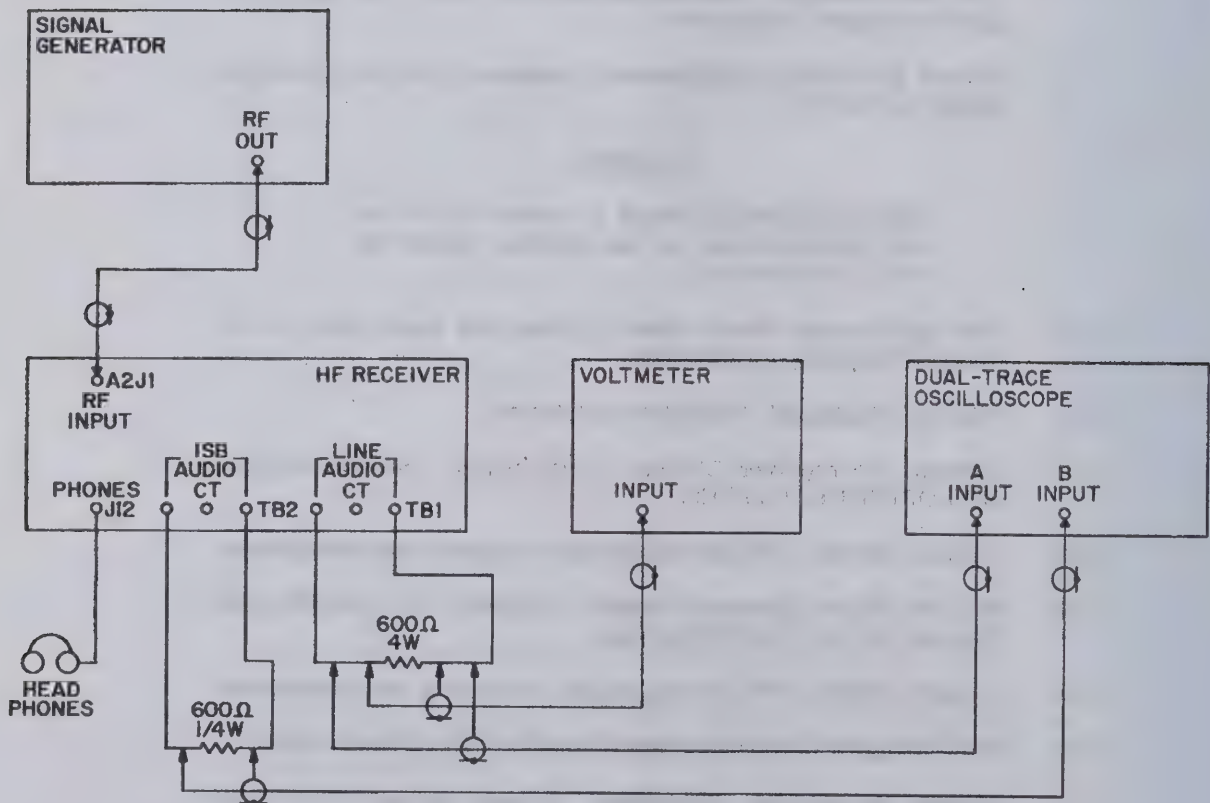

Figure 4-4. Detection Mode Performance, Test Setup
1. Connect test equipment to the receiver as shown in Figure 4-4.